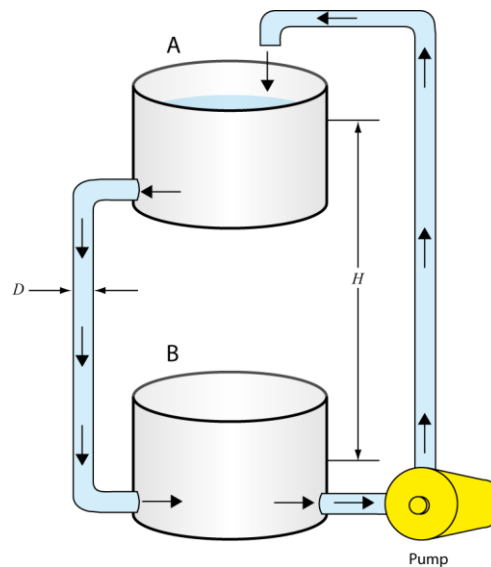

Figure 1 - Analogy of water flow and electric current for a resistor
Consider a water pump as presented in Figure 1 below, which lifts water through a height, H , up to reservoir A, from which the water flows down a pipe of diameter, D , to reservoir B below. The pump then takes the water from reservoir B and pumps it back up the same height, H , to reservoir A. This water circuit is a closed loop. The pump gives potential energy (gravitational) to the water in the same way that a battery in an electrical circuit provides energy to the electrical charges. The height difference (H) between A and B determines the magnitude of the water droplets' potential energy ($E = mgH$), which is released when they fall down the pipe. This is analogous to the voltage difference between the positive and negative terminals of a battery, or any other source of voltage. It determines the rate at which the electrical charges move (current).